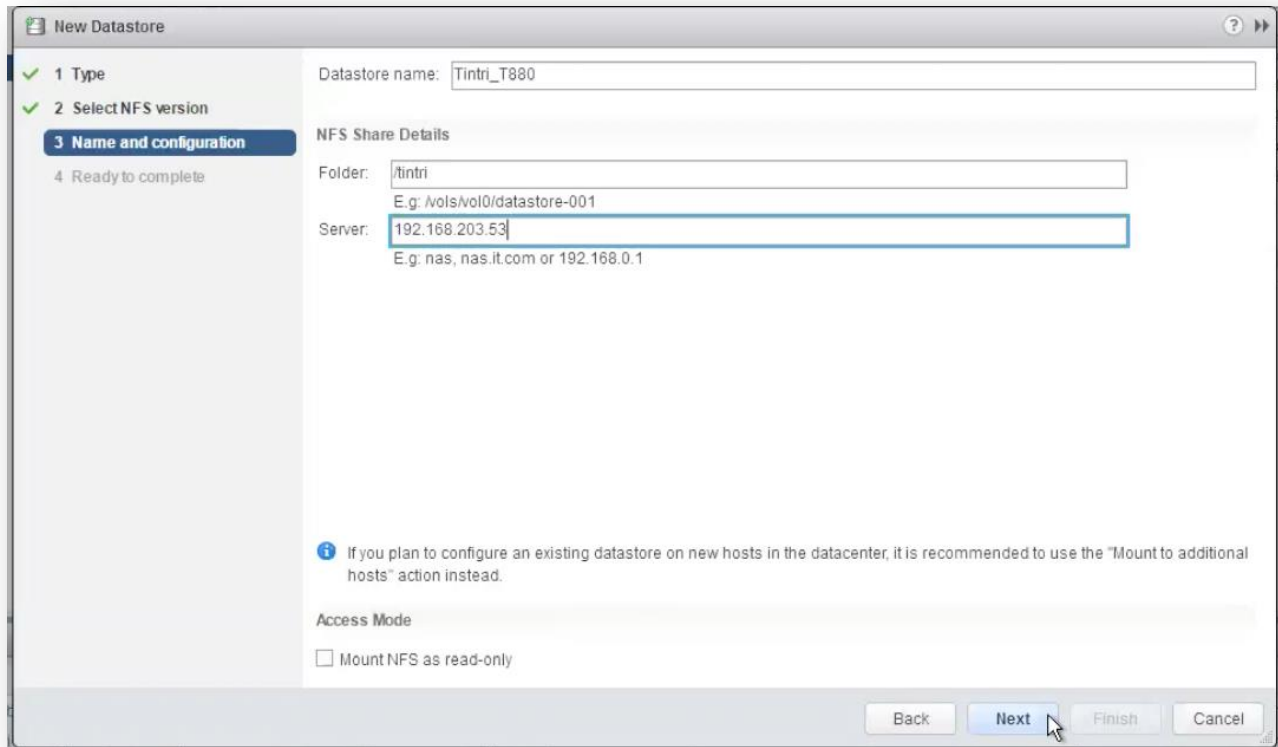

Figure 20 – The New Datastore dialog.
- c. Name and configuration. (See Figure 20 for an example of the dialog.)